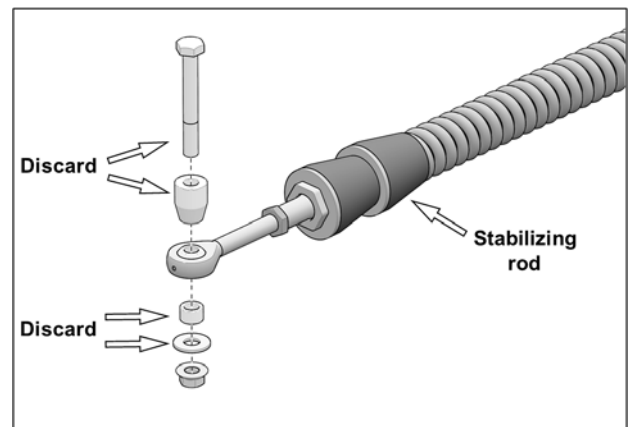

Fig. 3
- Remove and discard bolts, washers, bushings, and nuts installed on rear stabilizing rod ends. See Fig. 3